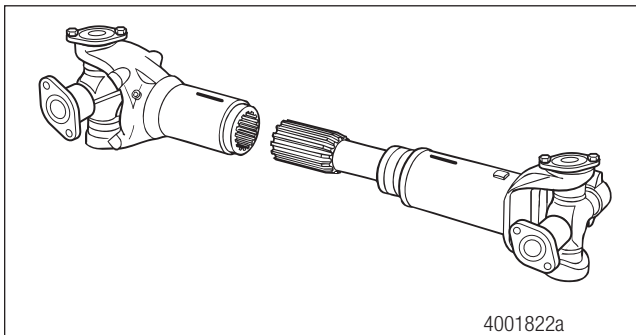

Figure 6.5
4. Pull the slip yoke and slip shaft sections apart. Figure 6.5.